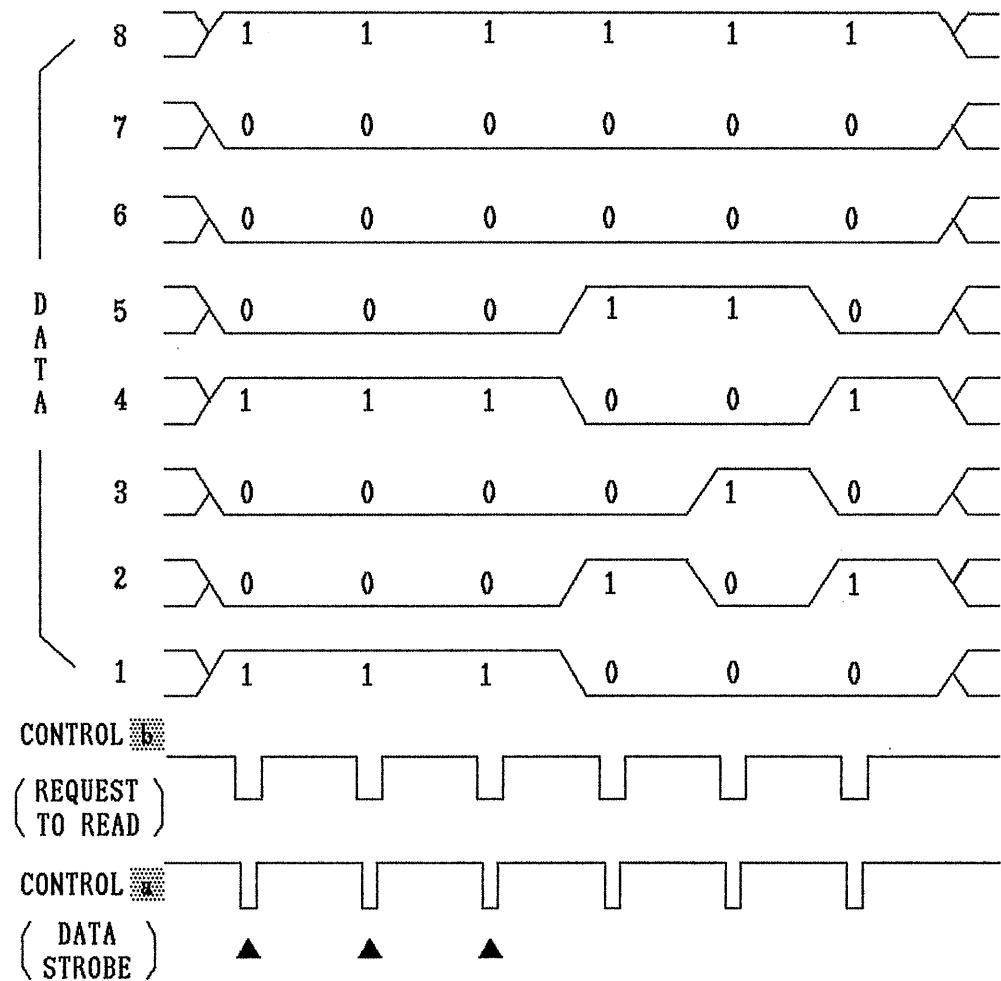

Fig. 5-3
- 4) After this point, processing for memory storage inside the main unit will begin from the point data "10001001" of function F2 and control signal  are sent and control signal  goes to "0" as indicated in Fig. 5-3.